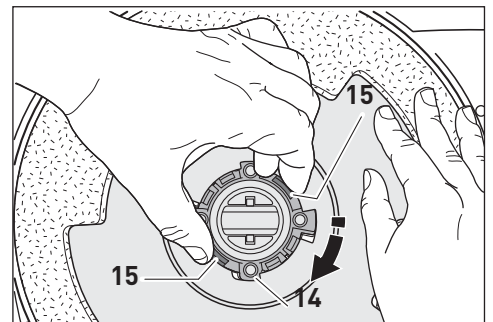

Figure 12
To insert a new pad, fit the floor pad (13) to the pad retainer (14), using the notches as a guide for correct position. Press the pad down onto the pad retainer (14) until it locks in place. Next, press the retainer tabs (15) in using your thumb and forefinger and turn the pad clockwise until it locks into place again (figure 12).